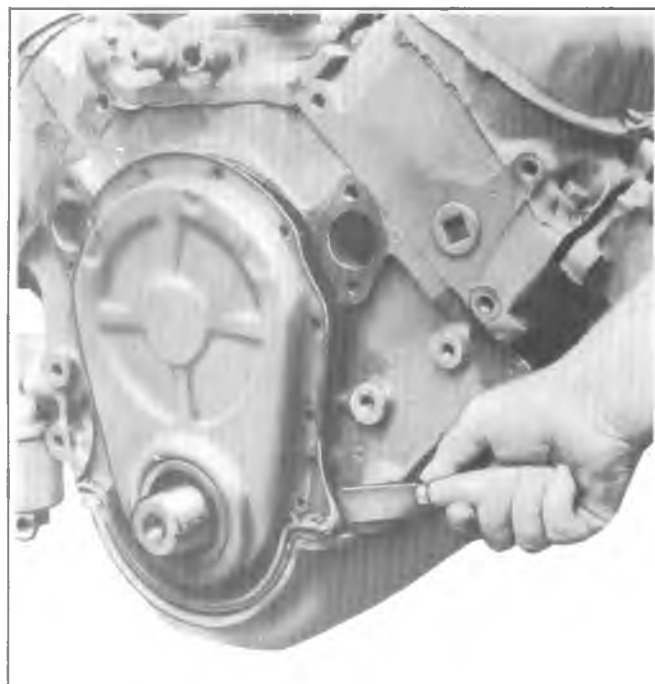

Fig. 6A5-31--Cutting Tabs on Oil Pan Front Seal
5. Using a sharp knife or other suitable cutting tool, cut oil pan front seal flush with cylinder block at both sides of cover (fig. 6A5-31).